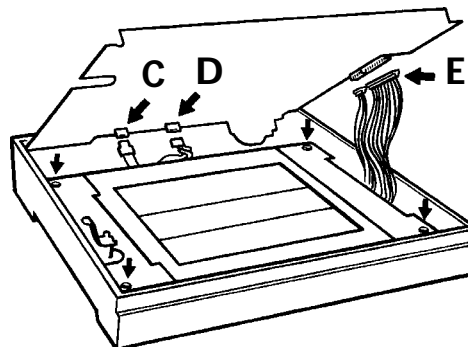

Figure 2b Inner cover removal
- 2 Carefully remove the door inner cover, by lifting the cover and disconnecting the various connectors as they become accessible (C, D and E in figure 2b).
- 3 Remove the four display unit securing screws arrowed in figure 2b